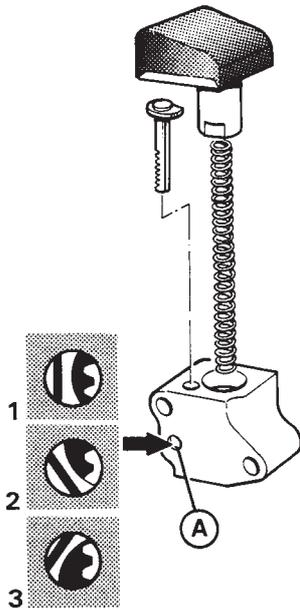

Fig.4 Hydraulic tensioner
9. Lock the tensioner by turning the screw to position 2 as shown in fig.4.